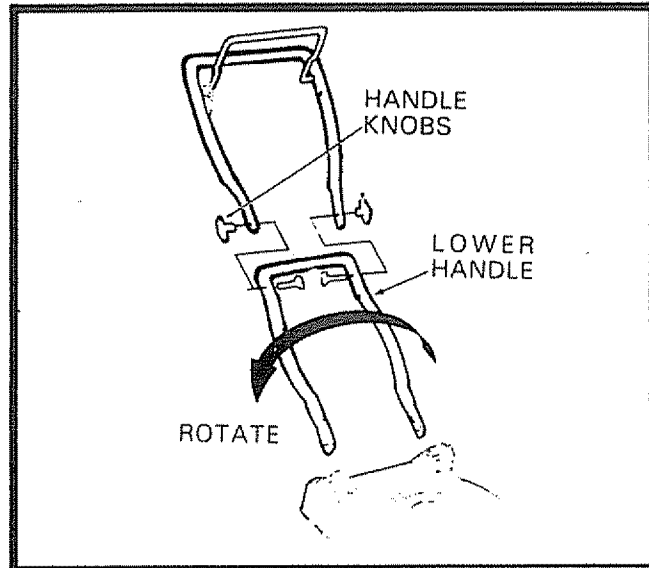

FIG. 8
- To change from high to low position, only the lower handle section will have to be turned over (See Fig. 8).